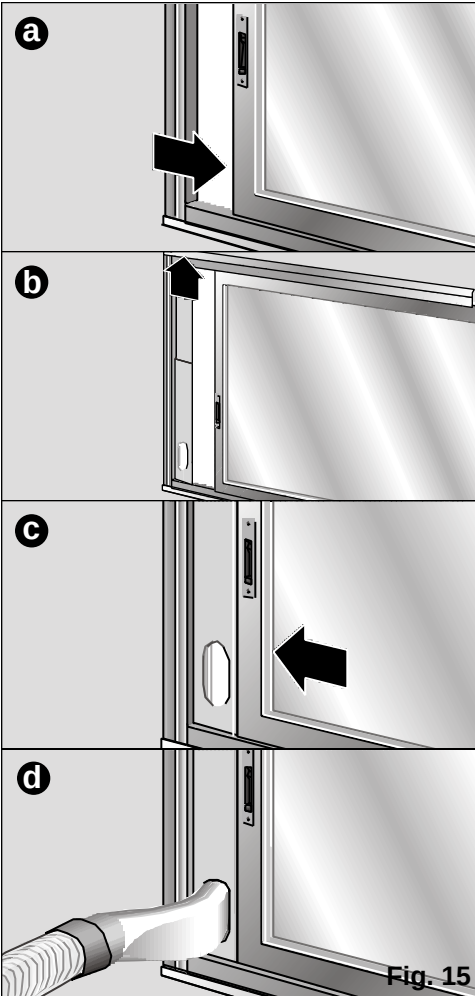

Fig. 15
- The sliding window/balcony installation accessory can also be used (See "Description of accessories"). **Fig. 15: a, b, c, d.** This accessory can be used for both horizontal and vertical windows / balconies.